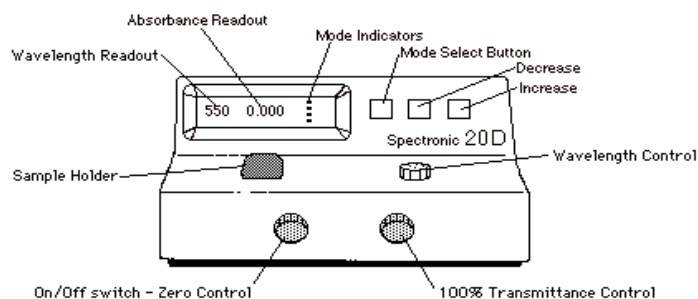

Figure 4: Labeled Diagram of the Digital Spec-20 Spectrophotometer. This figure will be referenced in the text.
1. Set the wavelength to 530 nm using the wavelength control knob shown in Figure 4.
2. Ensure that the filter setting is moved all the way to the 340-599nm setting. This is a lever located under the On/Off knob, but not pictured in Figure 4.
2. The “Mode indicator” light should indicate that the Spec-20 is reading in %T Mode. If it is not, change the mode by pushing the “Mode Selection Button” (See Fig. 4) to toggle the mode to %T.